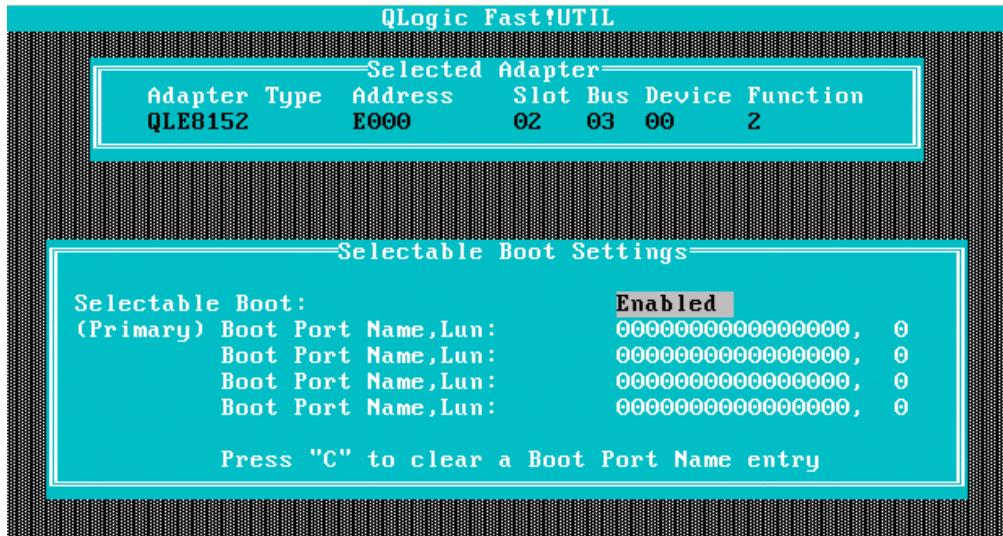

Figure 8-14. Selectable Boot Settings menu
- i. Enable the **Selectable Boot** option in the Selectable Boot Settings menu. Move the cursor to the **Selectable Boot** option, and then press ENTER (Figure 8-14).